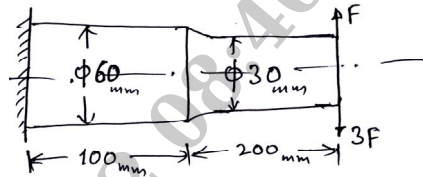

Fig.Q4(c)
- c. A steel rod ( $\sigma_y = 400.1 \text{ MPa}$  and  $\sigma_{-1} = 345.2 \text{ MPa}$ ) of circular cross-section shown in Fig.Q4(c) is subjected to load varying from  $3F$  to  $F$ . Determine the value of  $F$ . Use a factor of safety 3. Take stress concentration factor = 1.43,  $q = 1$ .